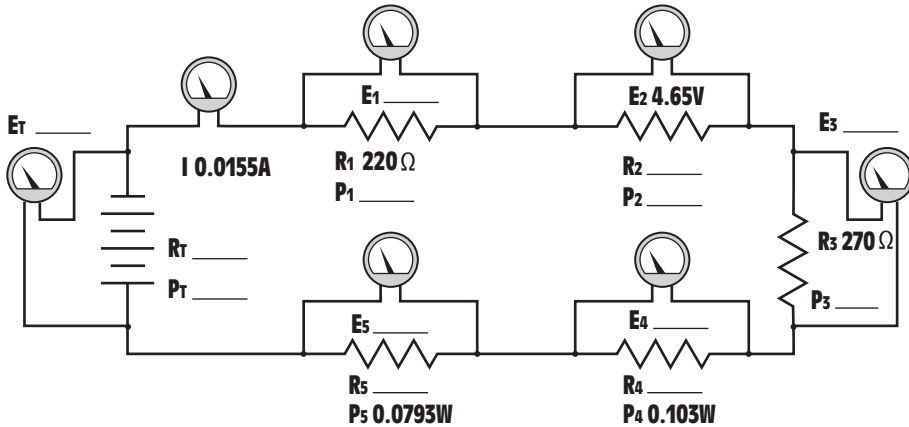

Figure 5-30 Practice Problem 5.
5. Find the missing values in the circuit shown in *Figure 5-30*.